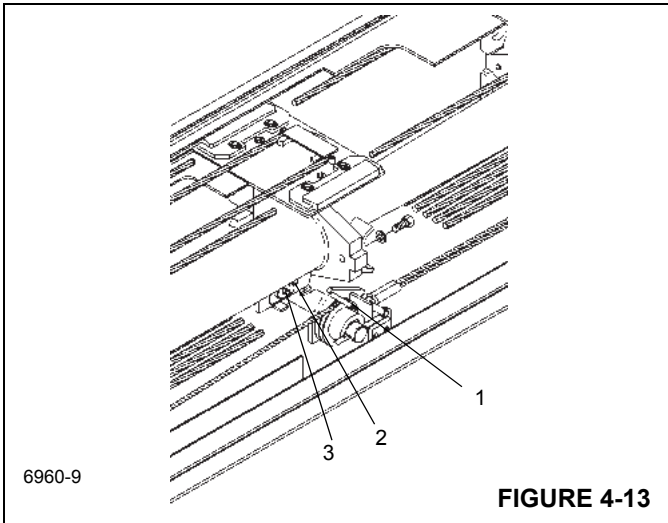

FIGURE 4-13
1. At the rear of the outer mid, remove the cap screw and cable retainer bushing from above each retract cable sheave assembly (1) (Figure 4-13).
2. On both sides, remove the capscrews securing each retract sheave assembly shaft weldment (2) (Figure 4-13). Remove the shaft, spacer bushing, sheave assembly, and two thrust washers. If necessary, remove the grease fitting (3) from the shaft weldment.